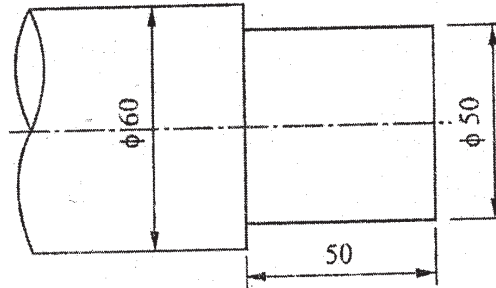
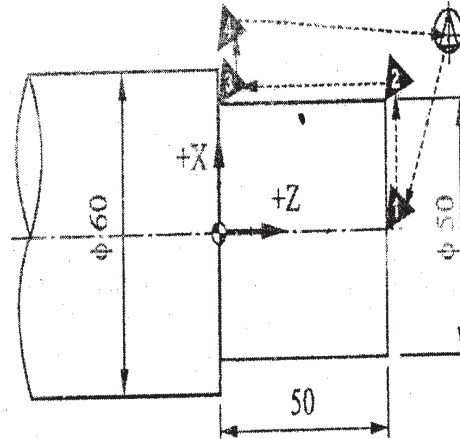

Fig. 6
Fig. 7
- Q6) a)** Write a manual part program to finish the stepped shaft as shown in Fig.6 and the tool path is shown in Fig.7. Assume spindle speed as 400 rpm and feed rate as 0.5 mm/rev. **[12]**